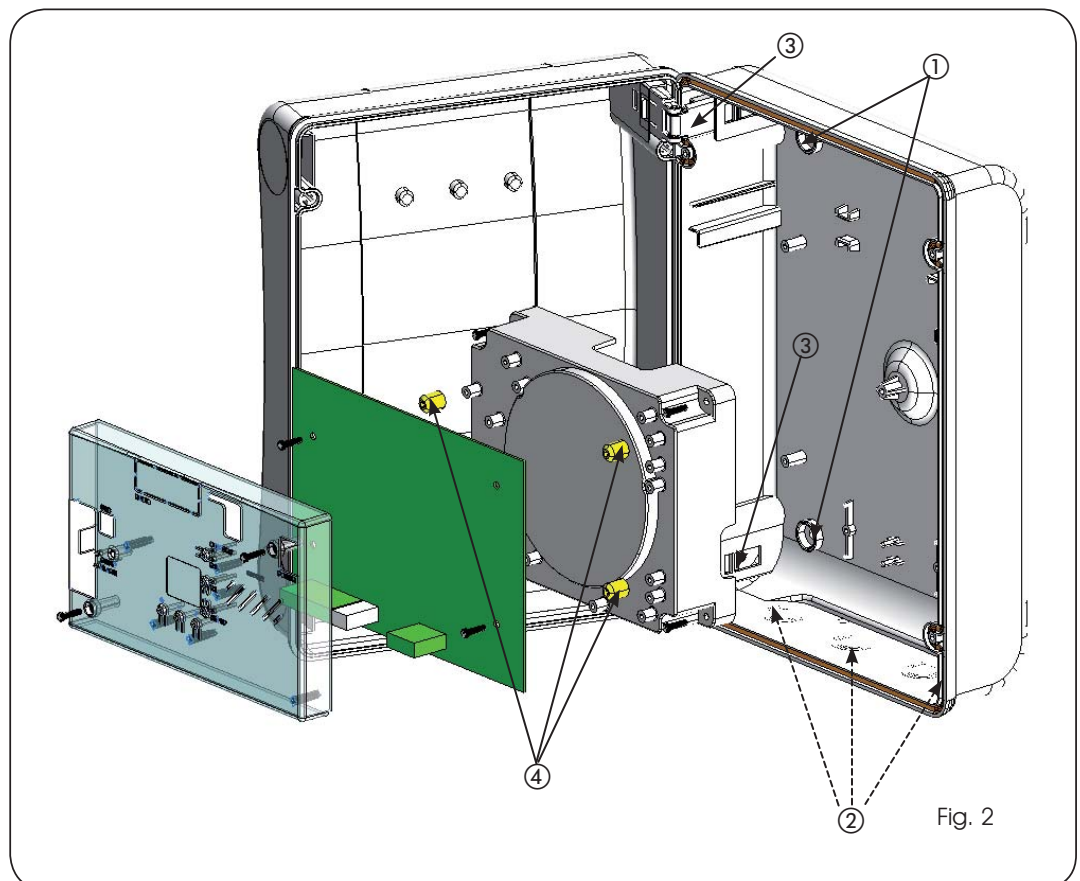
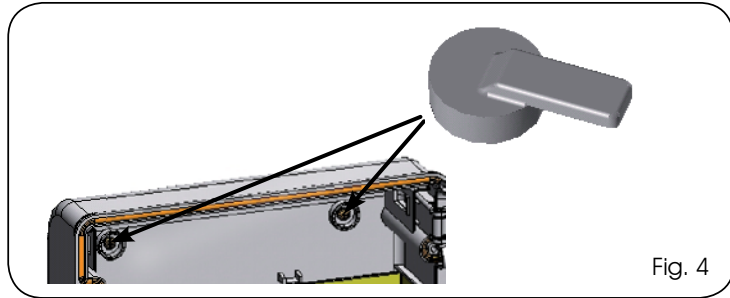

Fig. 2
Fig. 4
Fig. 2 shows the four 5 mm diam. holes for securing the box (ref. ①) to the wall, the three fittings for installing the cable grippers M16/ M20/M25 (ref. ②) and the two lid hinges (ref. ③).
When you have secured the box in the selected position, cover the securing holes (Fig. 2 ref. ①) and the screws with the supplied plugs as shown in Fig. 4.